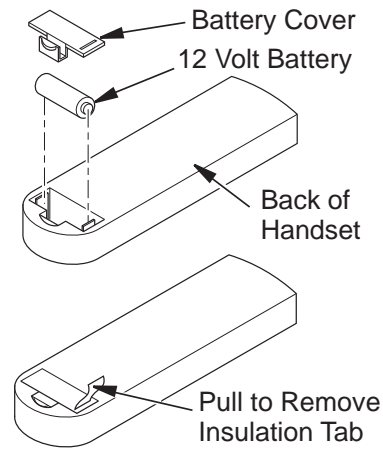

Figure 15 - Installing Battery into Back of Handset
3. Activate remote handset battery by removing insulating tab on back of handset (see **Figure 15**). Battery is included pre-installed.